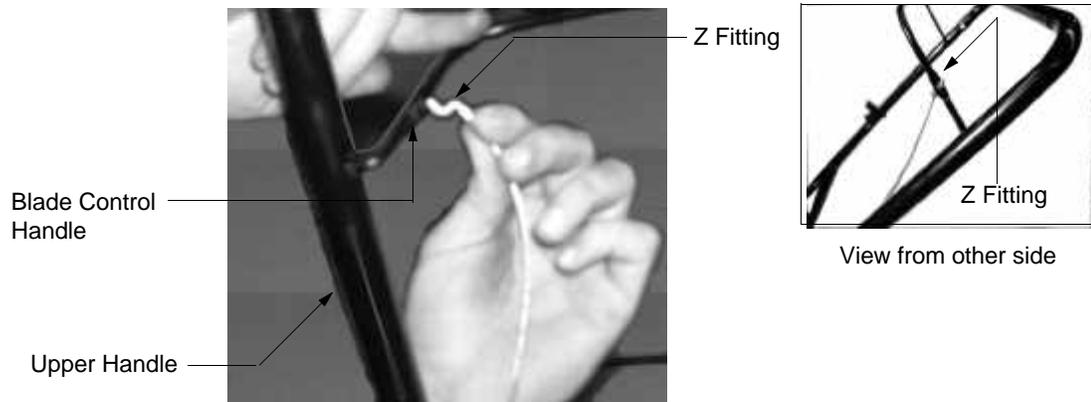

FIGURE 6
- Pull the Z end of the cable up and insert into the hole on the control handle from the inside. See Figure 6.